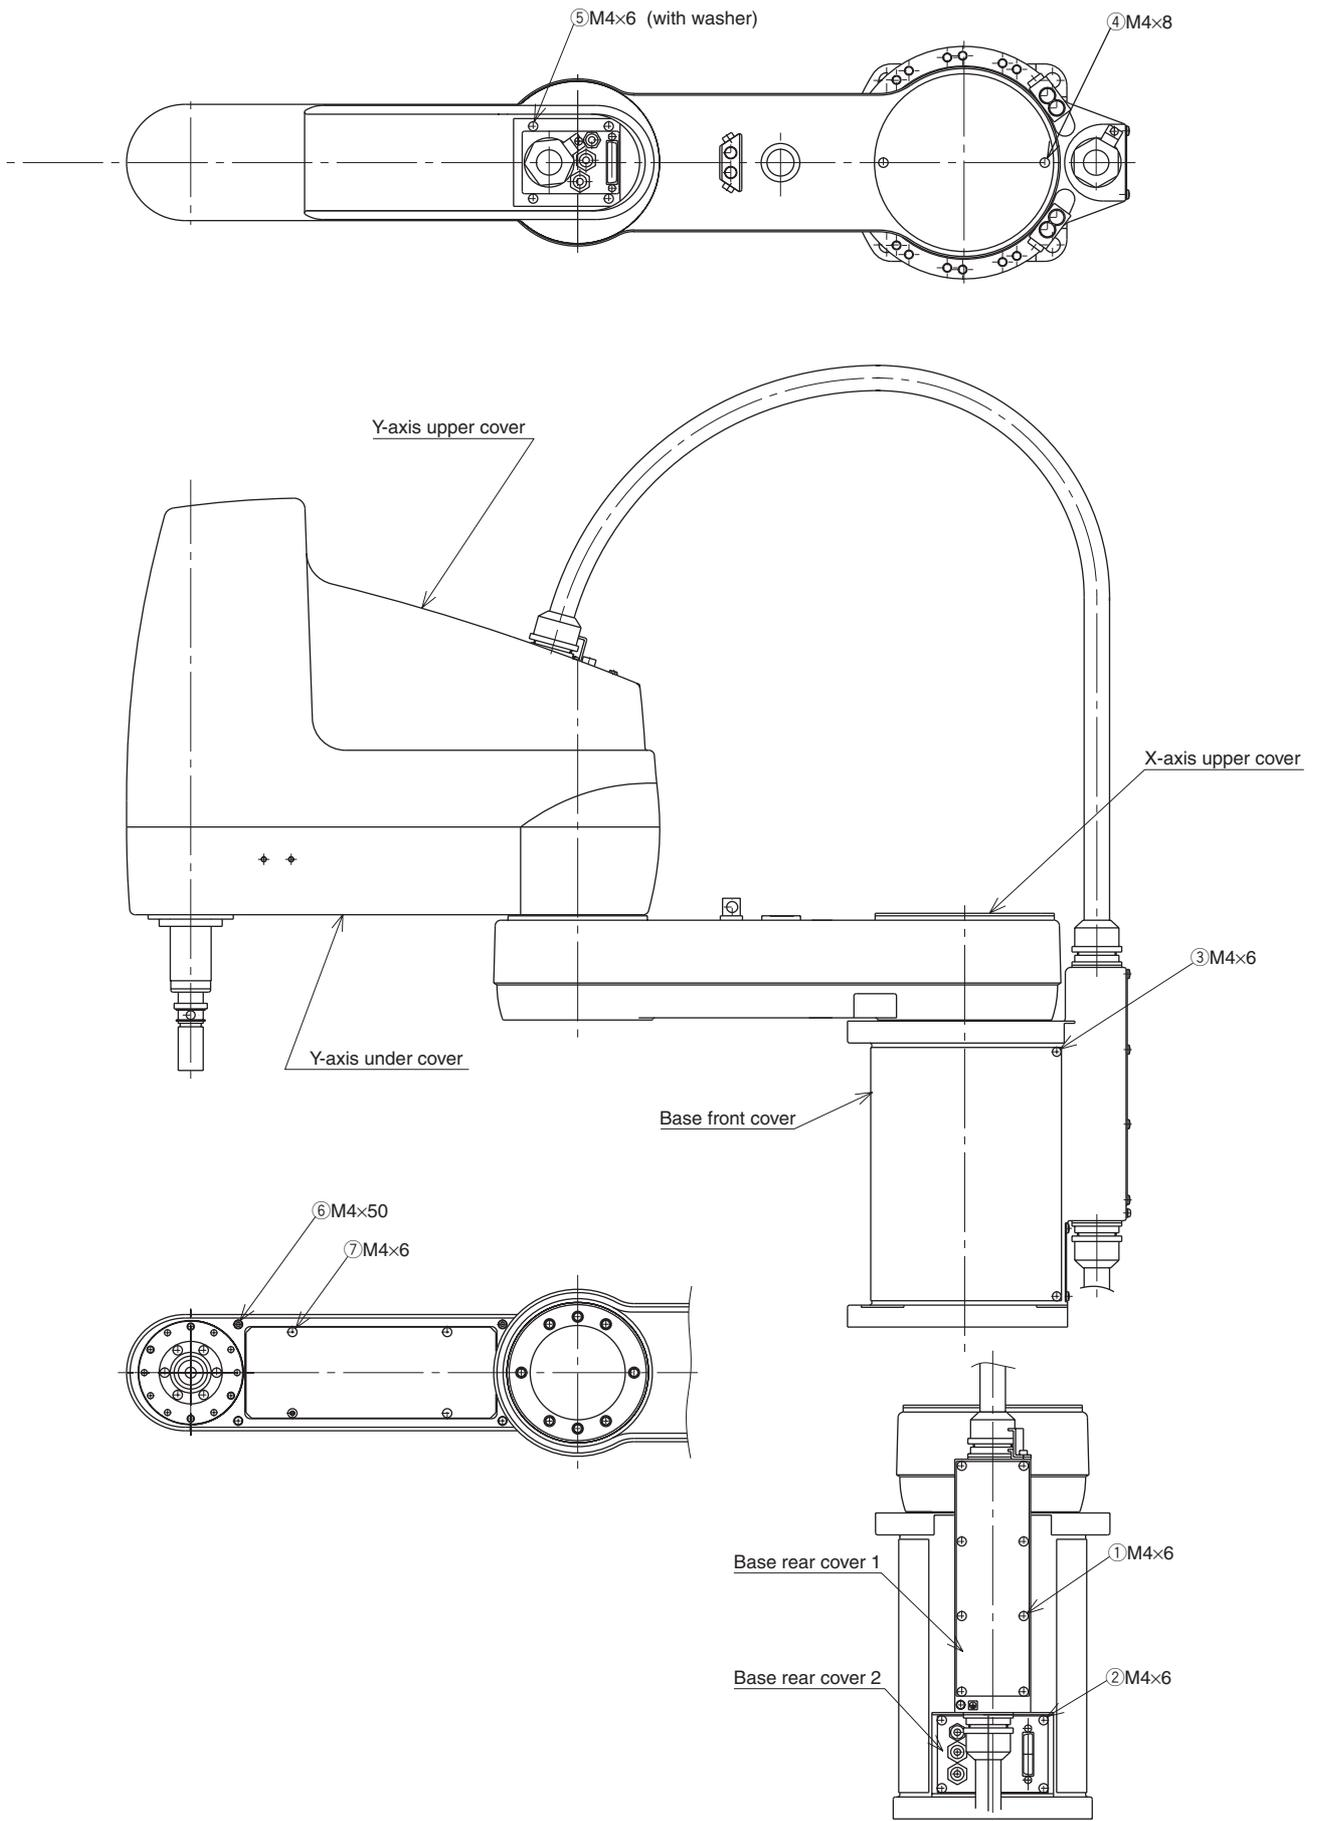

Fig. 4-27
**Table 4-7 YK700X, YK800X, YK1000X (See Fig. 4-27)**